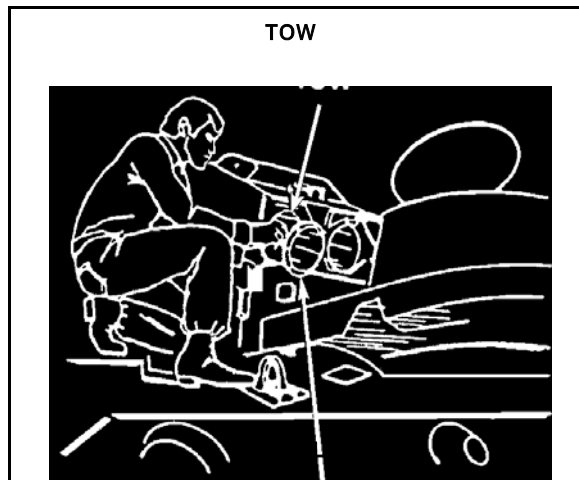

Figure 1. Rear flange.
- a. Start pulling the missile by the edges of the rear flange (Figure 1).